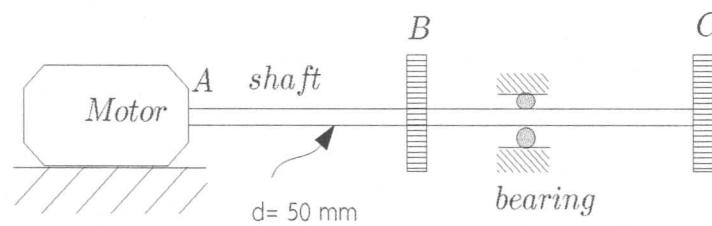

Figure 6.
6. A solid steel shaft ABC of constant diameter 50 mm as shown in Figure 6. is driven at A by a motor that transmits 50 kW to the shaft at 10 Hz. The gears at B and C drive machinery requiring power equal to 35 kW and 15 kw respectively. Compute the maximum shear stress in the shaft.